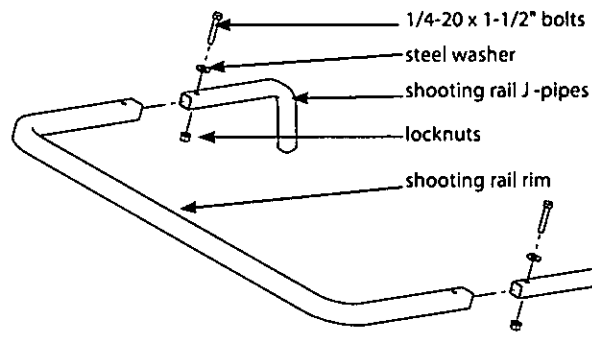

Figure 6
8. Insert the shooting rail J-pipes (410113) into the shooting rail rim (10394). Secure together using (2) provided 1/4-20 x 1-1/2" bolts, locknuts and steel washers. **SEE FIGURE 6.** You must now tighten all nut and bolt assemblies. **Be sure not to over tighten or crush tubing when tightening!**
a. Using (2) provided 1/4-20 x 2-1/2" bolts, locknuts and steel washers, attach the upper portion of each seat rail to the main side rails.